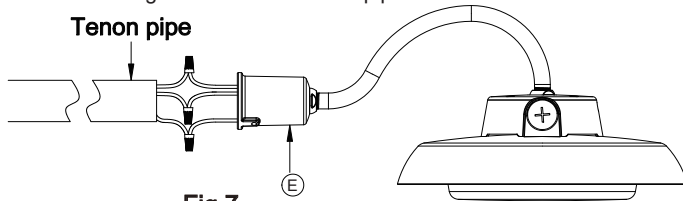

Fig.7.
4. Feed the connected wires into the tenon pipe while aligning and inserting the pipe into the tenon adapter. (fig 7). Ensure no wires are pinched. To level the light fixture, tighten the two (2) head set screws. This secures the light fixture to the tenon pipe.